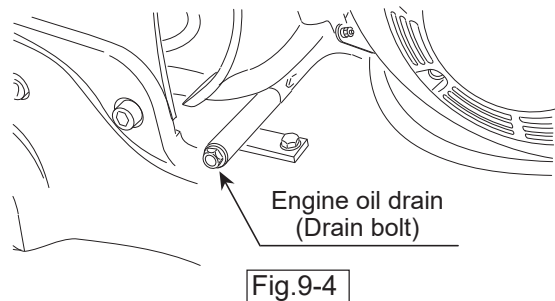

Fig.9-4
- Perform the first engine oil change after 20 hours of operation, then change at every 100 hours.(Fig.9-4)